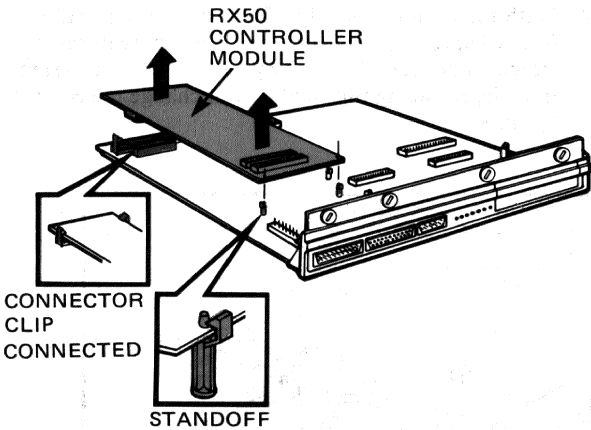

Figure 5-9 RX50 Controller Board Removal
2. Push the top of the connector clip and each standoff aside and lift the RX50 controller module off of the system module as shown in Figure 5-9.